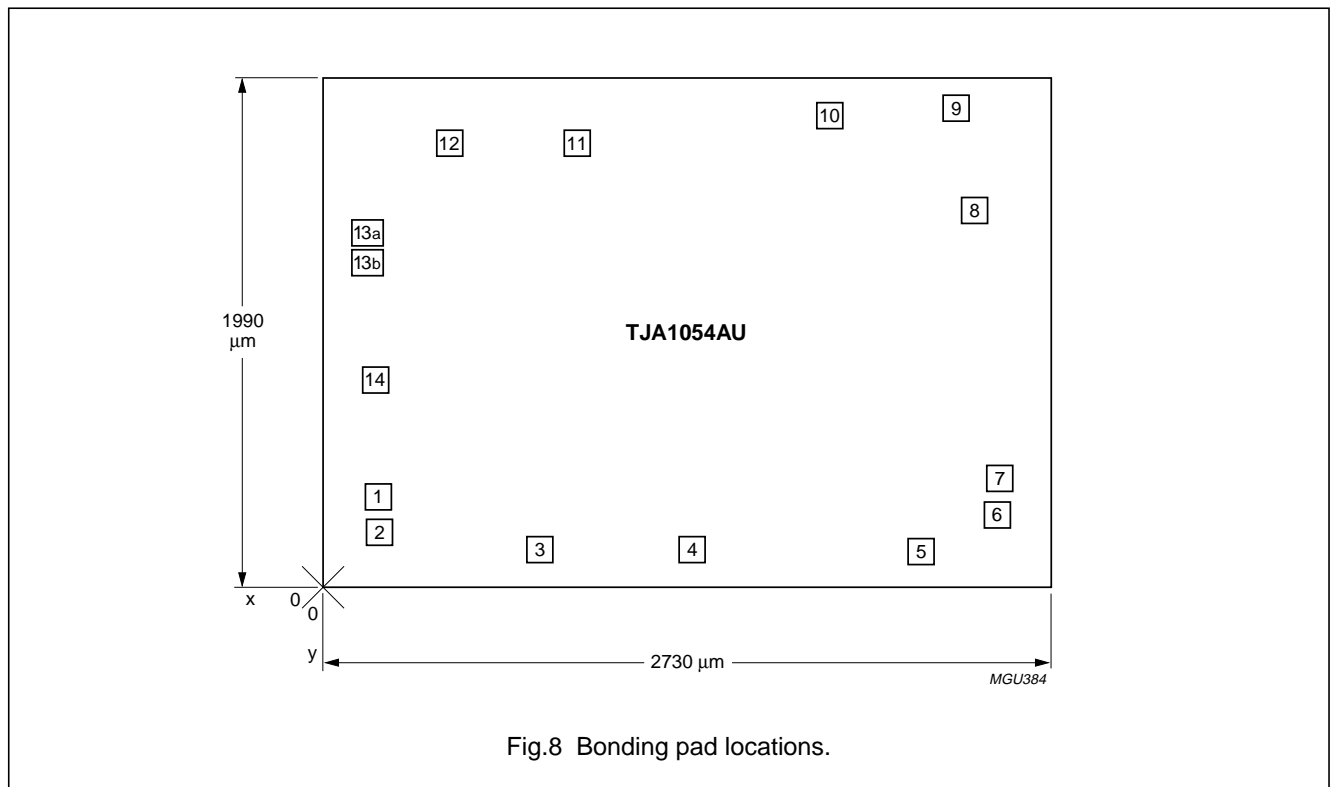

Fig.8 Bonding pad locations.
- All coordinates (μm) represent the position of the centre of each pad with respect to the bottom left-hand corner of the top aluminium layer (see Fig.8).